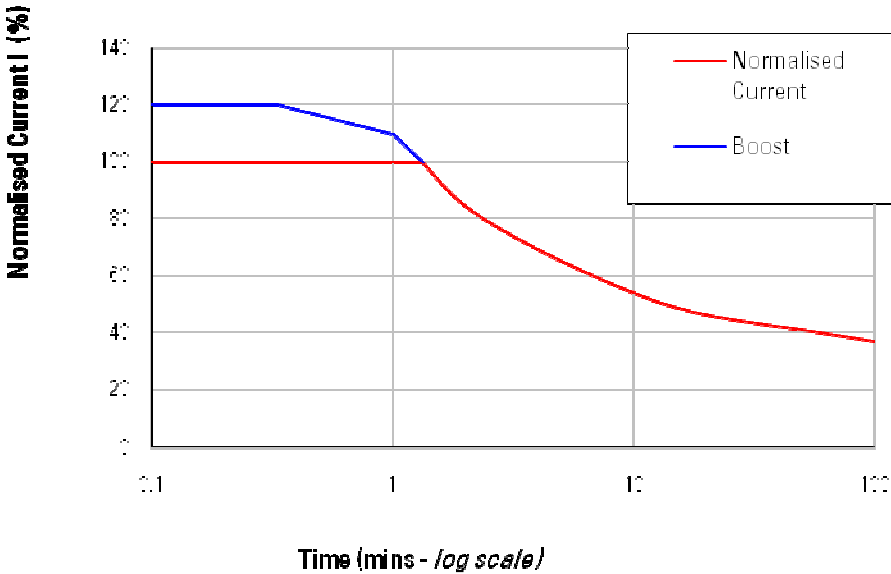

Figure 9 Output reduction over time with sustained peak demand
Output current:	<p>Reduced automatically from peak to continuous rating depending on the time a peak load is applied to the controller (see Figure 9 on page4-3).</p> <p>Reduced automatically if operated outside normal temperature range.</p>
*2 minute rating (lower ratings are possible for longer periods; see example in Figure 9)